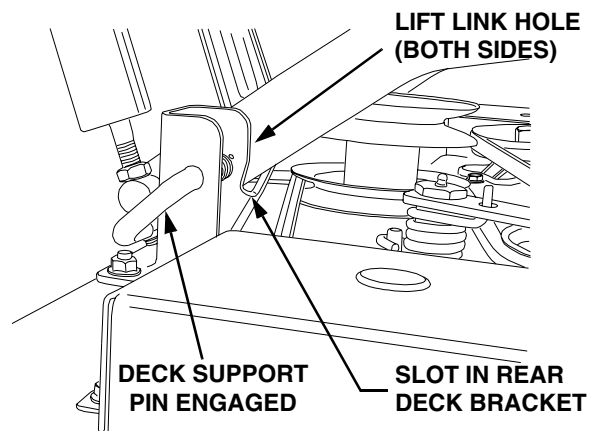

Figure 54
7. Carefully guide the tractor implement lift links (left and right) into the rear deck bracket slots (left and right) as the tractor implement lift handle is lowered to its lowest setting (Refer to Figure 54).
8. Pull both deck support pins outward and rotate rearward to disengage the outer surface of the rear deck brackets. Release the pins, making certain each deck support pin passes through the inner hole of the rear deck bracket. The spring tension will push the pins inward and, if aligned, through the hole in each implement lift link (See Figure 54).